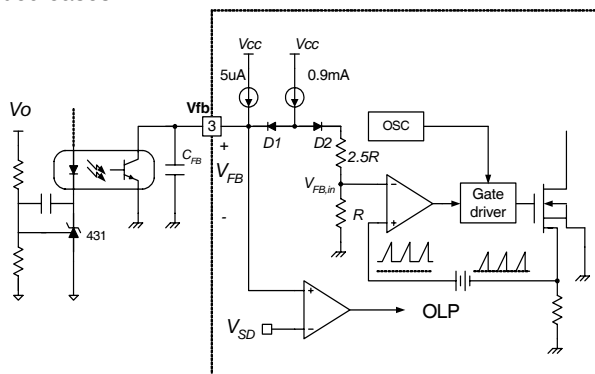

Figure 5. Pulse Width Modulation (PWM) Circuit
2. Feedback Control: The 700V FPS series employs current mode control, as shown in Figure 5. An optocoupler (such as the H11A817A) and shunt regulator (such as the KA431) are typically used to implement the feedback network. Comparing the feedback voltage with the voltage across the R_{sense} resistor of Sense FET plus an offset voltage makes it possible to control the switching duty cycle. When the KA431 reference pin voltage exceeds the internal reference voltage of 2.5V, the optocoupler LED current increases, the feedback voltage V_{fb} is pulled down and thereby reduces the duty cycle. This typically happens when the input voltage increases or the output load decreases.
4.3 Over Voltage Protection (OVP): In the event of a malfunction in the secondary side feedback circuit, or an open feedback loop caused by a soldering defect, the current through the optocoupler transistor becomes almost zero (refer to Figure 5). Then, V_{FB} climbs up in a similar manner to the overload situation, forcing the preset maximum current to be supplied to the SMPS until the overload protection is activated. Because excess energy is provided to the output, the output voltage may exceed the rated voltage before the overload protection is activated, resulting in the breakdown of the devices in the secondary side. In order to prevent this situation, an Over Voltage Protection (OVP) circuit is employed. In general, V_{CC} is proportional to the output voltage and the FPS uses V_{CC} instead of directly monitoring the output voltage. If V_{CC} exceeds 19V, OVP circuit is activated resulting in termination of the switching operation. In order to avoid undesired activation of OVP during normal operation, V_{cc} should be designed to be below 19V.